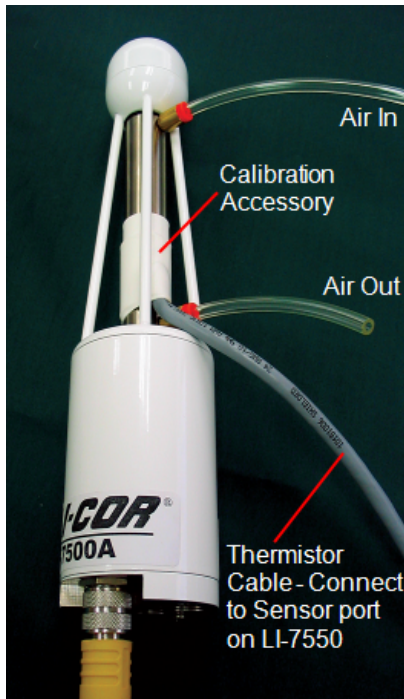

Figure 5-1. Flow calibration gas into either port.
5. Flow CO2-free air through the calibration accessory at a rate of about 0.5 to 1.0 LPM. Attach the zero gas to the calibration fixture at one of the ports shown in Figure 5-1 on the previous page. The calibration accessory has quick connect fittings for use with standard 1/8" I.D. Bev-a-line (or other) tubing.